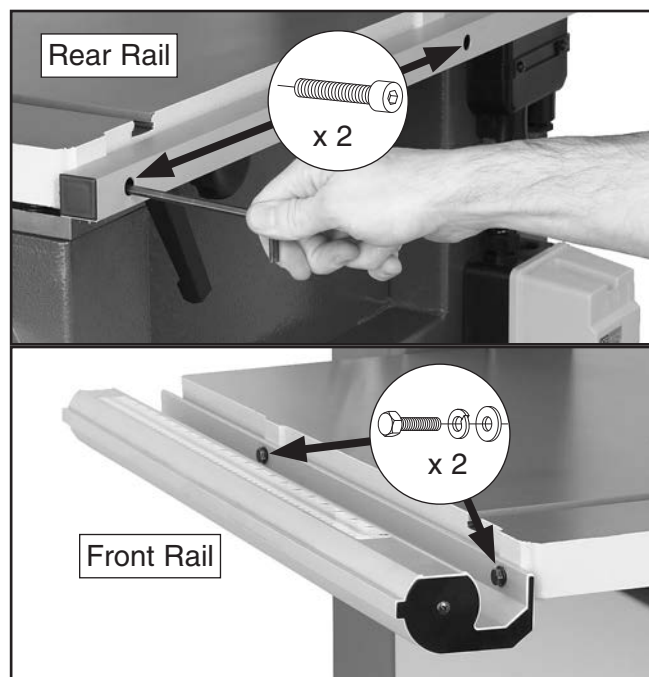

Figure 24. Rail installation.
1. Attach the rear rail to the table with the (2) M6-1 x 16 cap screws, as shown in **Figure 24**.
2. Attach the front rail with the (2) M6-1 x 20 hex bolts, 6mm lock washers, and 6mm flat washers, as shown in **Figure 24**.